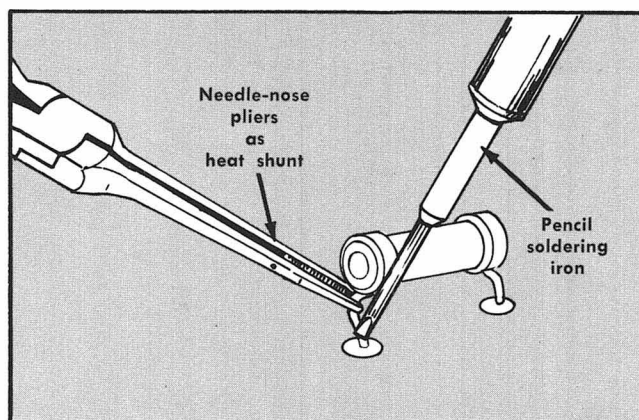

Fig. 4-3. Removing or replacing component on circuit board.
1. Grip the component lead with long-nose pliers. Touch the soldering iron tip to the lead at the solder connection. Do not lay the iron directly on the board as it may damage the board. See Fig. 4-3.